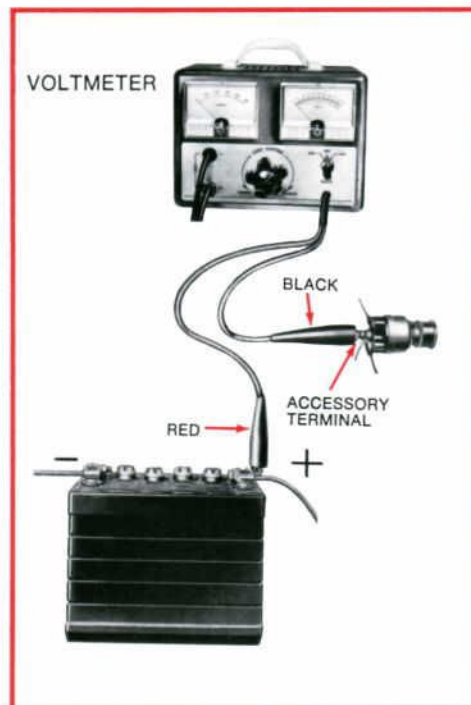

Figure 4—Details for Connecting Voltmeter to Make Ignition Switch Test
1. Connect the voltmeter leads as shown in Figure 4, and install a jumper wire from the distributor terminal of the coil to a good ground on the distributor body.